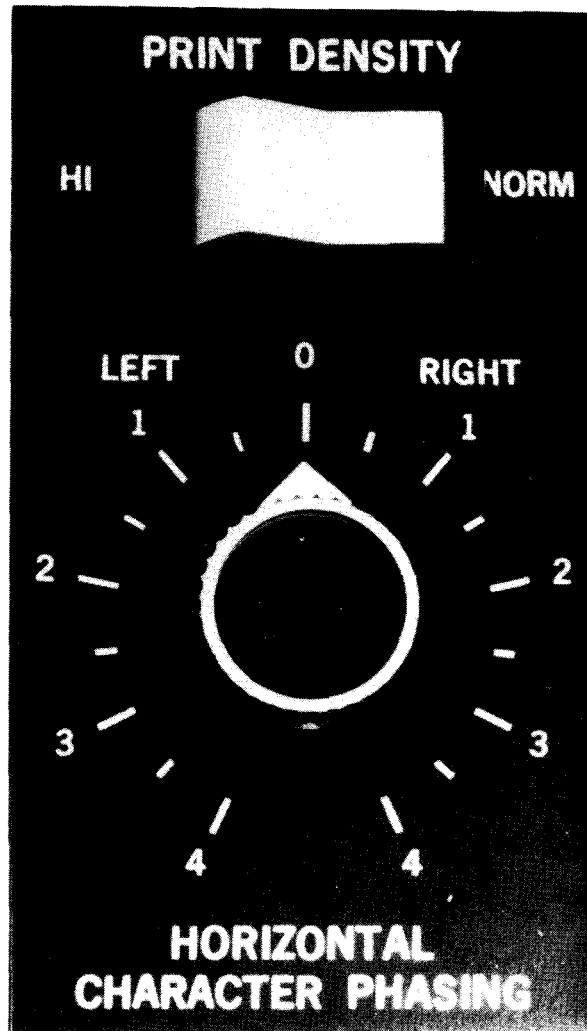

Figure 5—35. PRINT DENSITY Switch and Print Phasing Control
1. Open the print carriage by lifting the latch lever and pressing in to release the latch (Figure 5—26). Swing the carriage assembly fully open.
2. Release the antistatic brush by pulling back the latch (Figure 5—27). Swing the brush back to permit access for loading forms.
- a. Cut off the top of the container approximately 2 inches (5.08 cm) below the top edge (Figure 5—28).